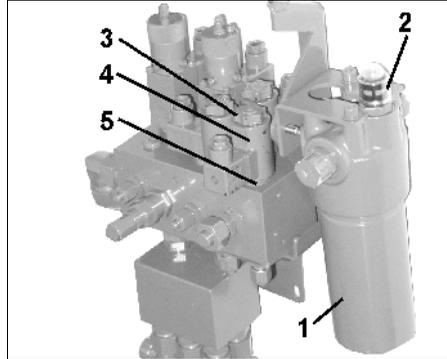

Fig. 62
During operation the function of the hydraulic oil filter (Fig. 62/1) can be checked on the control block. Indication in the check window (Fig. 62/2):
- Unscrew solenoid cap (Fig. 62/3)
- Remove magnet coil (Fig. 62/4)
- Screw out the valve rod (Fig. 62/5) with valve seat and clean with compressed air or hydraulic oil.